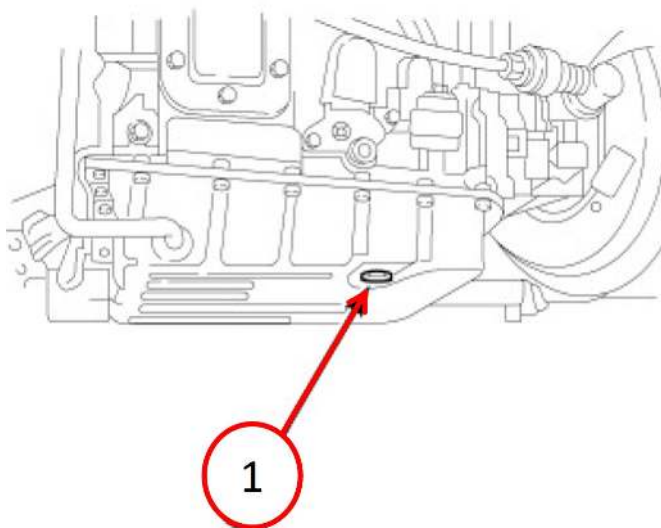

Fig. 1
4. Remove oil pan drain plug (Fig. 1) and drain fluid from transmission pan. Discard drain plug gasket.